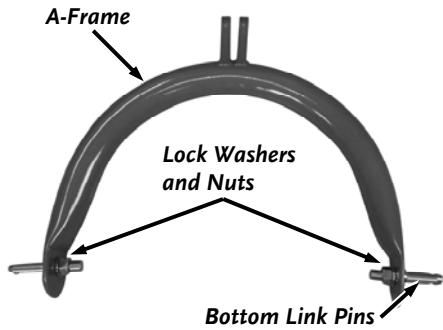

Figure 5
1. Loosely install the Bottom Link Pins to the A-Frame using the, 7/8" Lock Washers, and 7/8-14 Nuts (**Figure 5**). Use a Screwdriver in the Hole of the Bottom Link Pin to hold it in place while you tighten the Nut using a Large Adjustable Wrench.